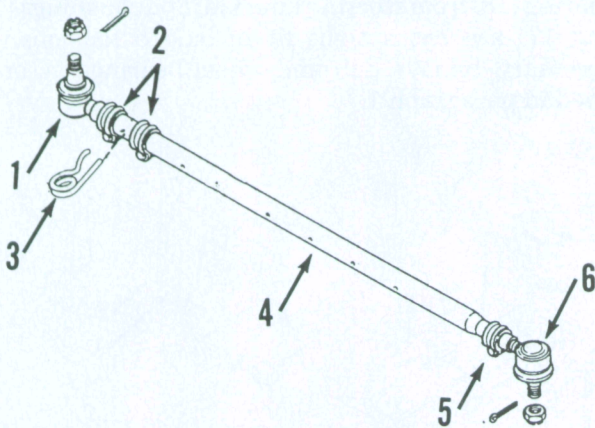

Fig. 3—Tie rod used on all two-wheel-drive tractors.
3. Disassembly of the tie rod is obvious after an examination of the unit and reference to Fig. 3.
To adjust toe-in, loosen clamps (2—Fig. 3) and remove spring pin (3). Loosen clamp (5) and rotate outer tube (4) as required. Reinstall spring pin (3) and tighten clamps.